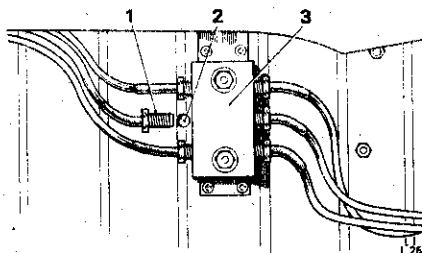

Fig. 3 - Showing the connecting block adjacent to the transmission.
12. The solenoid valve signal pressure must be blanked off from the roll restrictor valve. This is conveniently done under the car at the connecting block by the left-hand side of the gearbox. It will be necessary to remove the brake actuation box shield on left-hand drive cars to expose this block. Remove the forward end of the second most inboard metal pipe from the connecting block as shown in Figure 3. The pipe is identified by a yellow sleeve.